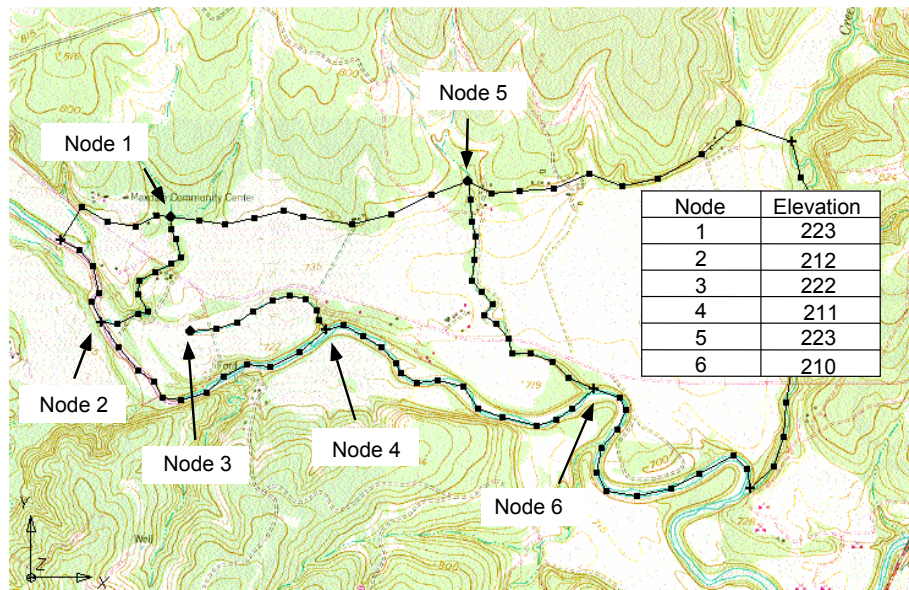

Figure 5. Elevations for Drain Nodes.
Double click on Node 2 in Figure 5. Notice that this node has 2 properties associated with it since it is attached to 2 arcs of different types.
13. Repeat this procedure to assign the drain elevations to the nodes shown in Figure 5. Be sure to change the *drain* property only, and NOT the *spec. head* property.